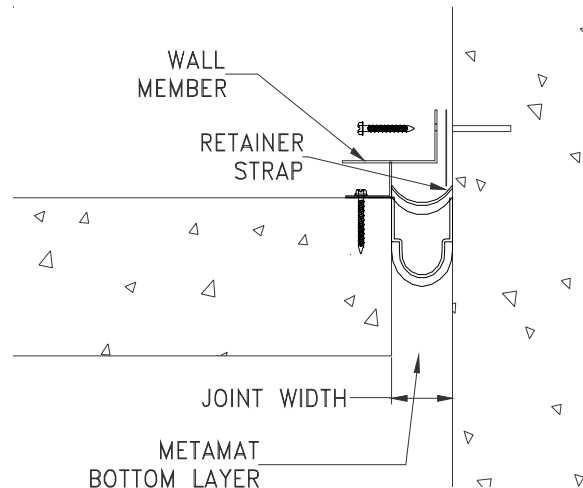

Figure 5
STEP 8. Select the retainer, and place the retainer over the flanges on the wall surface. Ensure that the retainer is holding the MetaMat tightly against the wall surface so that the mat material completely spans the joint. Excess MetaMat flanges may be trimmed or folded over. Place the joint cover system base member and wall member back into their installed positions. Ensure that the anchor holes in the base and wall members are aligned with the anchor holes in the substrate. Attach the base and wall members to the substrate using the fasteners provided by the factory (Figure 5).